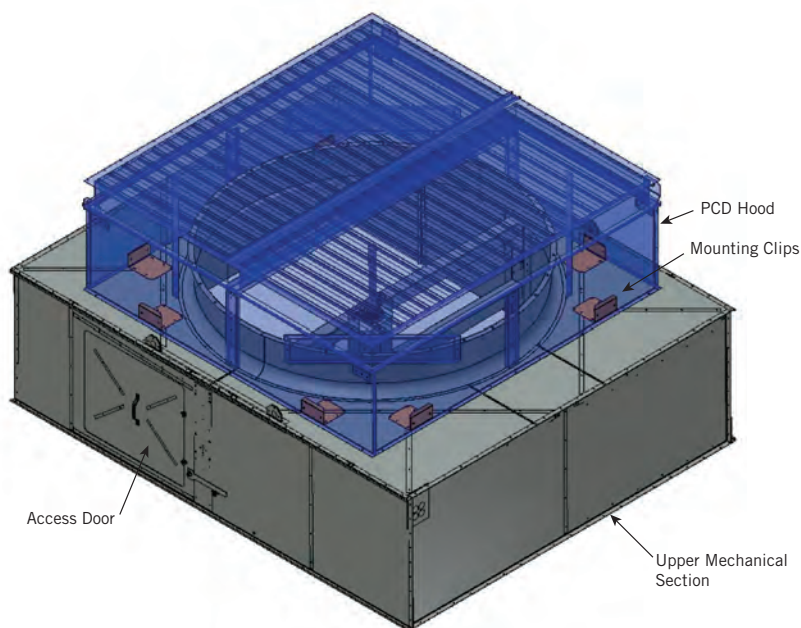

Figure 24. PCD Hood Bracket Mounted Assembly
Bracket Mounted Assembly: PFi-1012, 1024, 2012, 1212, 2412, and 1224 (Two Fan Only for PFi-1218, and 1236) (Figure 24)
2. Apply foam tape (BAC part # 270567) to the bottom edge of the PCD hood. Lower the PCD hood into position on the upper mechanical section by aligning the bolt holes on the PCD hood with the pre-existing bolt holes on the bracket mounts as shown in **Figure 24**. Be sure to follow the minimum height restrictions H found in **Table 3** between the top of the PCD Hood and the apex of the crane cables supporting the load.